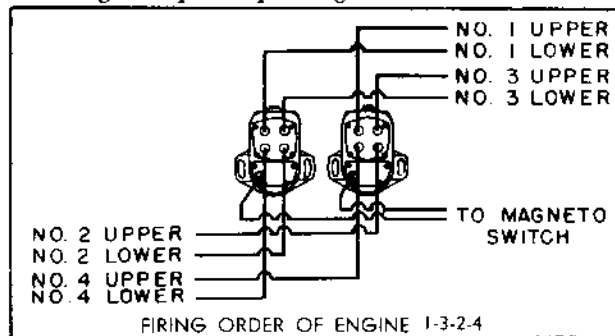

Figure 11. Ignition Wiring Diagram.
a. Refer to figure 11 where the complete ignition wire system is diagrammed and firing order given.